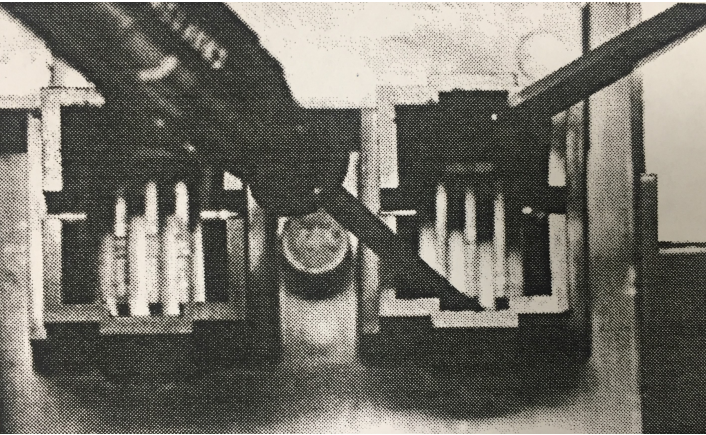

Figure 4. Removing the original On button from the breaker cover by pressing the locking tabs with two screwdrivers.
5. From the back side of the breaker cover, use two screwdrivers to press in the locking tabs on the ends of the normal On button, as shown in Figure 4, then push the button out through the front of the cover.